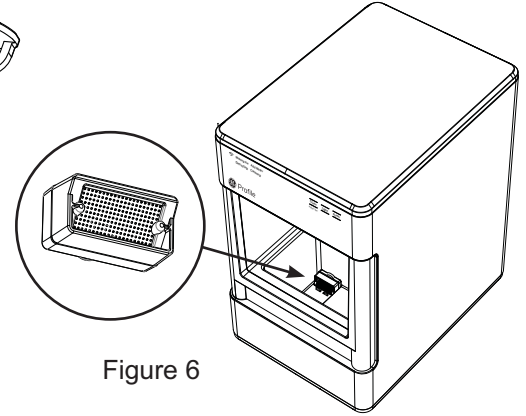

Figure 6
- Uninstall all accessory filters and replace mesh screen that came with the unit. (Figure 6)